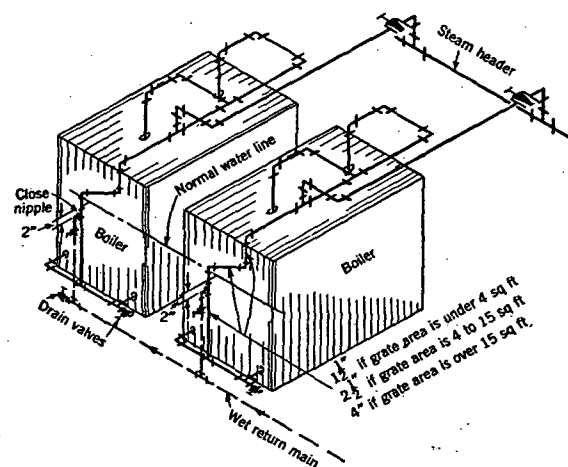

FIG. 3. THE HARTFORD RETURN CONNECTION
In order to prevent the boiler from losing its water under any circumstances, the use of the Hartford connection, or the Underwriters Loop, is recommended. This connection for a one- or two-boiler installation is shown in Fig. 3. The essential features of construction of a Hartford
Loop connection are: (1) a direct connection (made without valves) between the steam side of the boiler and the return side of the boiler, and (2) a close nipple connection about 2 in. below the normal boiler water line from the return main to the boiler steam and return pressure balance connection. Equalizing pipe connections between the steam and return are given in Fig. 3, based on grate areas, but in no case shall this pipe size be less than the main return piping from the system.